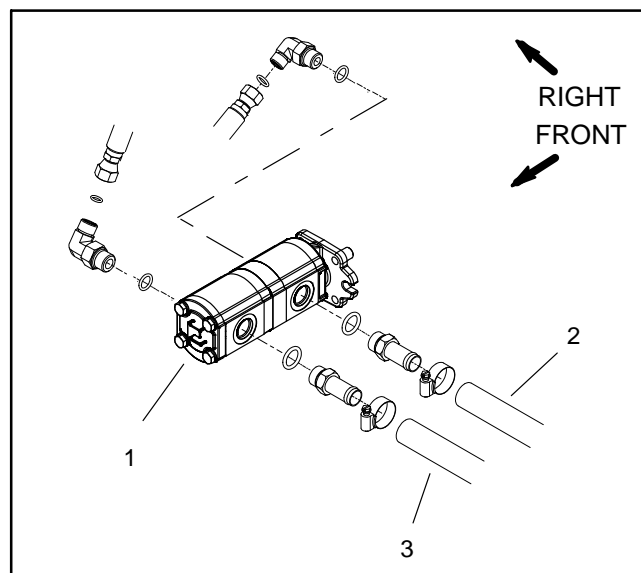

Figure 35
2. The two section High Flow Hydraulic System gear pump supplies oil flow for two circuits and uses two separate reservoirs and oil types (Fig. 35). The front pump section (drive end) uses oil from the transaxle (Dexron III ATF). The rear pump section uses oil from the High Flow Hydraulics Kit reservoir (hydraulic oil). During gear pump assembly, lubricate front section components with clean Dexron III ATF and rear section components with clean hydraulic oil.